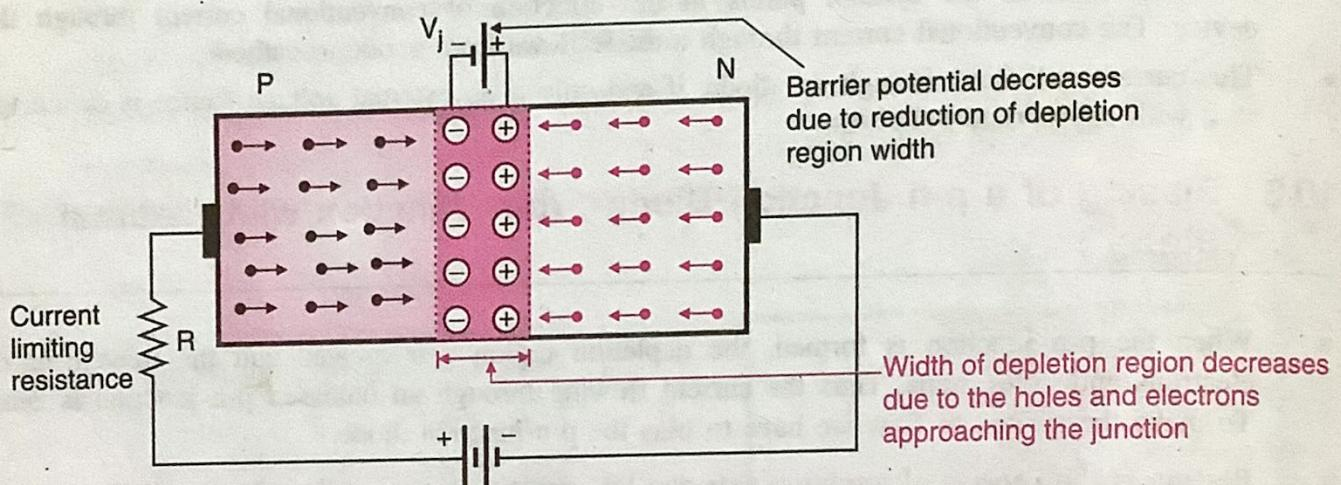

Fig. 10.6.2 : The effect of increased forward bias on the depletion region and barrier potential
- With increase in the external supply voltage V , more and more number of holes (p-side) and electrons (n-side) start travelling towards the junction as shown in Fig. 10.6.2.